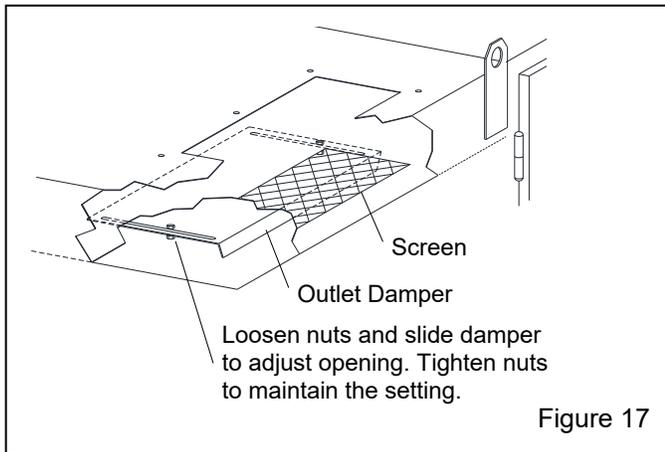

Figure 17
**5.3.2** Adjust static pressure by opening or closing the outlet damper located above the reclaimer on the underside of the power module top; refer to Figure 17. If the damper is not opened far enough, the reclaimer will not remove fines, resulting in dusty media and poor visibility, or will not convey media, causing media buildup in the hose between the cabinet hopper and reclaimer. If the damper is opened too far, it may cause carryover (usable media carried into the dust collector) and result in excessive media consumption. Open the damper only as far as necessary to achieve a balance of maximum dust removal without media carryover.